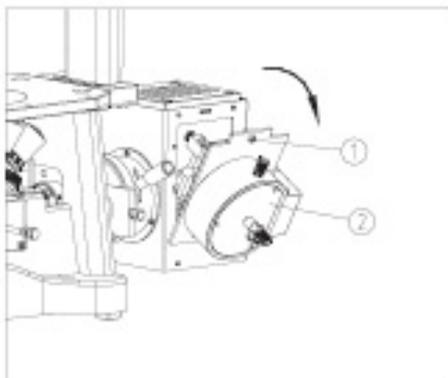

Figure 10
- (1) Loose the lock-screw 1 completely by M4 inner hexagon spanner, rotate about 45 degrees as the direction showed, and take off the bulb holder 2. (Fig. 10)